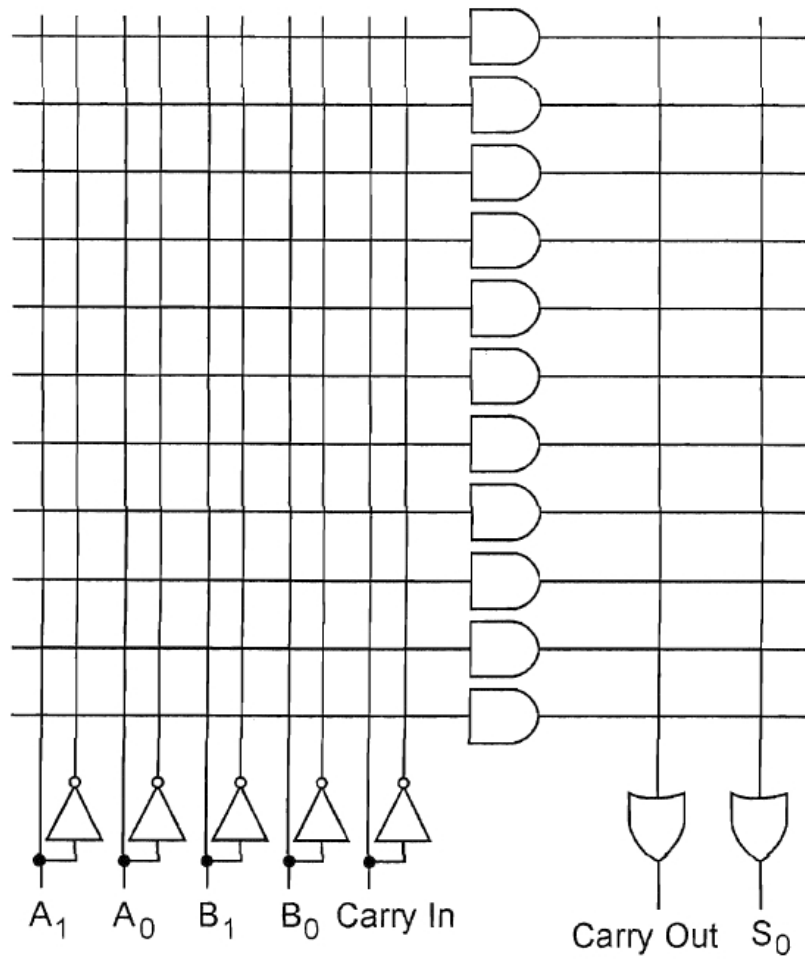

Figure 2
- (c). Figure 2 (on the next page) shows a 5 input, 2 output PLA. A 2-bit Full Adder is to be designed with inputs  $A_1:A_0$  and  $B_1:B_0$  plus Carry-in, and outputs  $S_1:S_0$  plus Carry-out. Indicate, using X's at the appropriate points on this diagram the connections to be made in the PLA to generate  $S_0$  and Carry-out. Note that Carry-out here is equivalent to  $C_1$ .